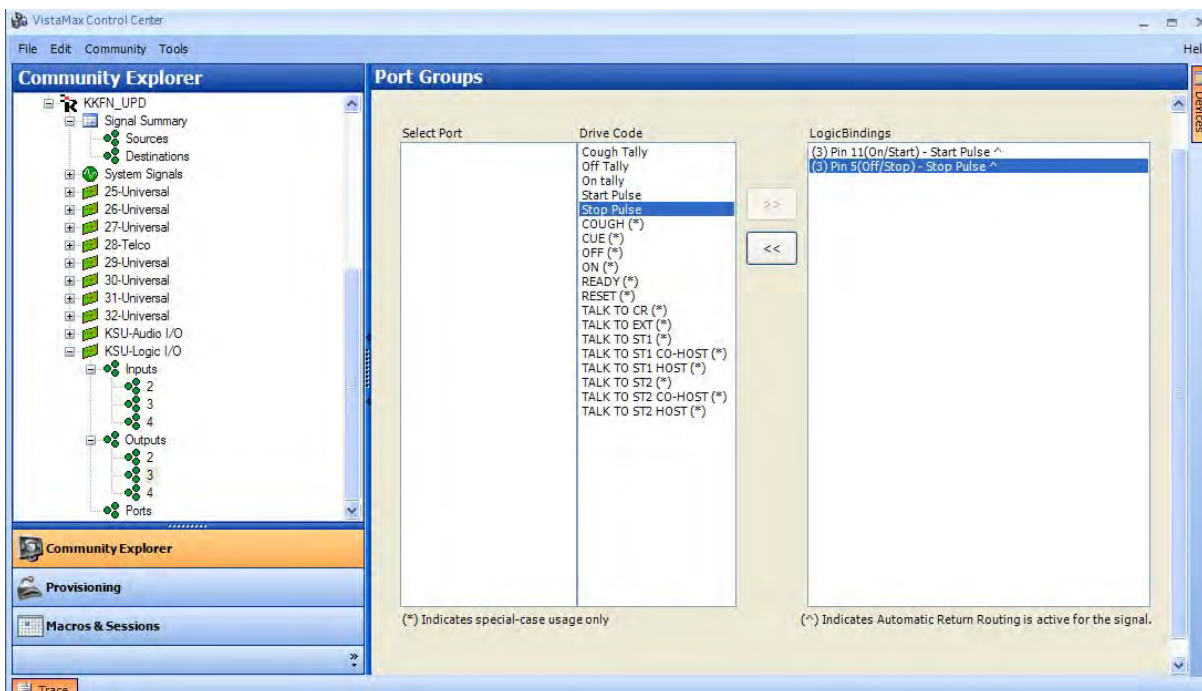

Figure A-18. VMCC Port Groups – Automatic Return Route Selected
6. Click **Add Return Route**. VMCC adds a carat symbol (^) to the **Logic Bindings** (Figure A-18) to indicate that Automatic Return Routing is active for that signal.